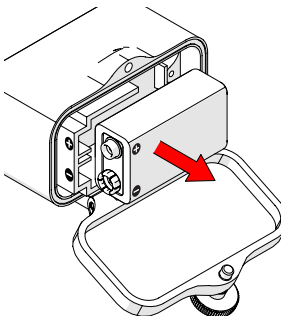

Fig. 34 - Remove the 9V battery
2. Remove the 9V battery from the battery compartment and dispose of it according to local regulations (*Fig. 34*).